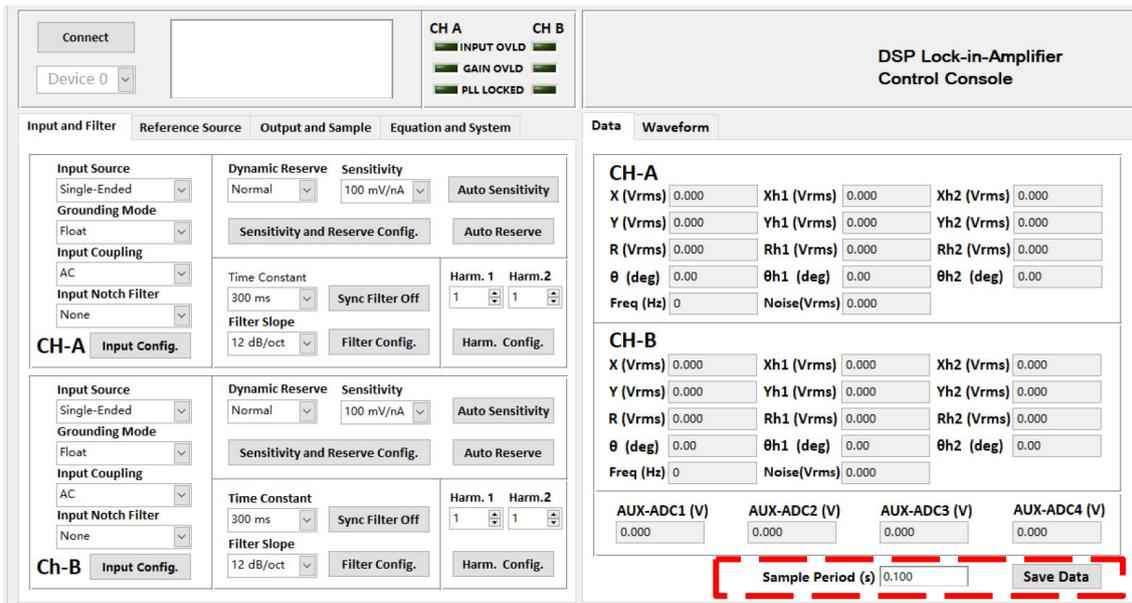

Fig.71 The Configuration Area of Data Storage
- (1) The data is saved in Excel. The file name is 'Data_recorded_excel.xls'. It is saved in the program directory.
- (2) When the software is executing, click the button **Save Data** in the red box in Fig.71. After clicking this button and it displays **Saving...**. The software is saving the current collected data.
- (3) Click the button **Saving...** again, and the button status will switch back to again. This means the software stops saving collected data.
- (4) In **Sample Period (s)** , you can modify the sampling rate of the current display and data storage. The input range is 0.1s to 100s.